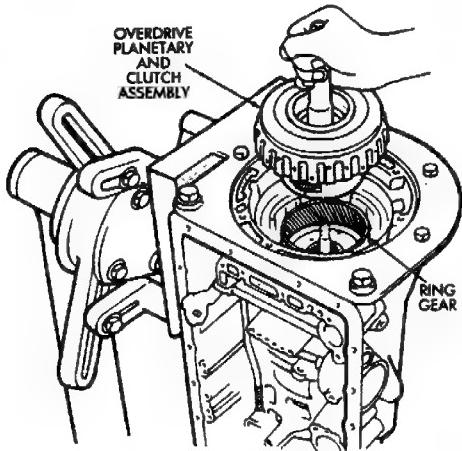

Fig. 49 Installing Overdrive Planetary And Clutch Assembly
(61) Install assembled overdrive planetary gear and clutch (Fig. 49).
(62) Coat thrust bearing and race assembly with petroleum jelly and install it on clutch input shaft (Fig.